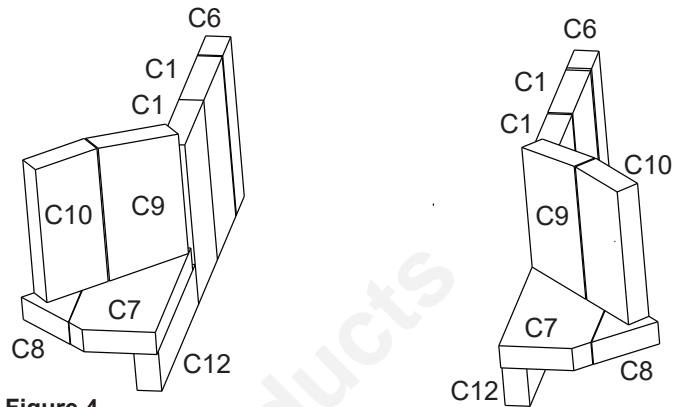

Figure 4
5. Install side bricks. Slide top of brick under clips on side of firebox and push the bottom of the brick until it is flush with the side of the appliance (**Figure 4**).